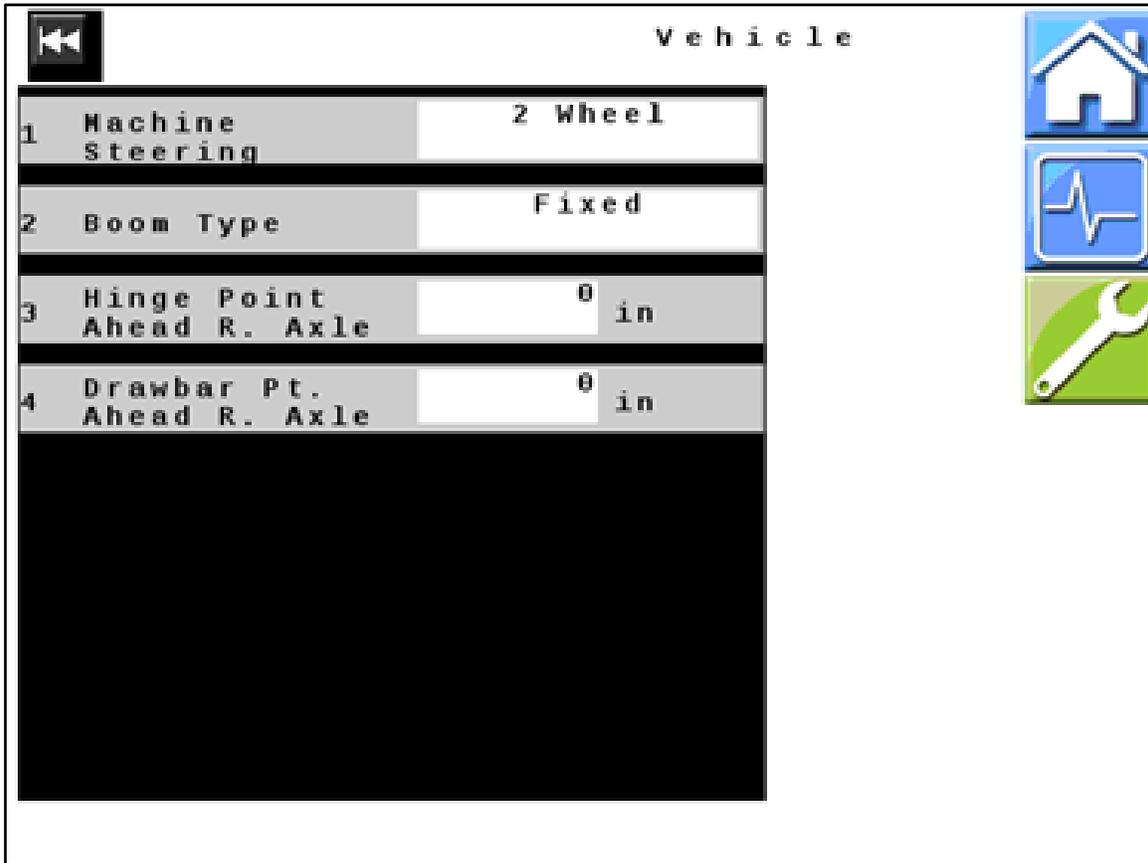

Figure 20 — Vehicle
35. *Figure 20:* Verify that all values displayed on your unit match those shown here. Change values if necessary.